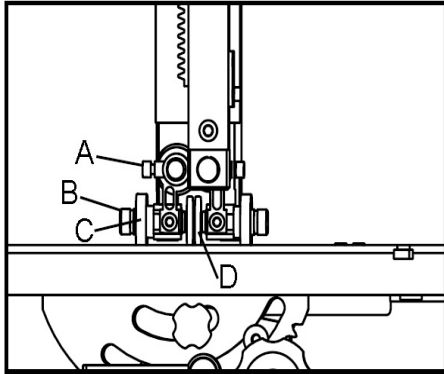

Fig. 14: Saw blade guide
Step 3: To adjust the lateral guide rollers (Fig. 14, Pos. D), loosen the clamping plates (Fig. 14; C) and adjust the guide rollers with the adjusting screw (Fig. 14, Pos. B) so that there is a gap of approx. 0.5-0.7 mm between them and the saw band. If the gap is set too small, the bandsaw blades will wear faster!
Step 4: Retighten the screws (Fig. 14, Pos. C).
Step 5: Loosen the screw (Fig. 14; A) and slide the rear guide roller on the saw band backs.
Step 6: Retighten the screw (Fig. 14, Pos. A).